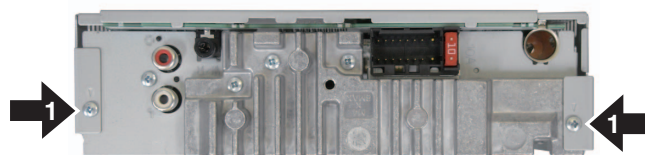

Fig.3
- ➔ 1 Remove the two screws.(Fig.3)